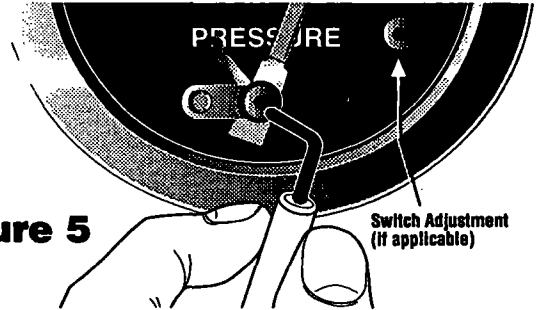

Figure 5
1. All contacts are set using a 1/16 in. hex wrench (Figure 5).
1. With equipment running; use a 1/16 in. hex wrench to rotate contact until it touches the pointer. **Do NOT** force contact against the gage pointer. Equipment should shut down and/or alarm should operate. Reset the contact (See Figure 5).